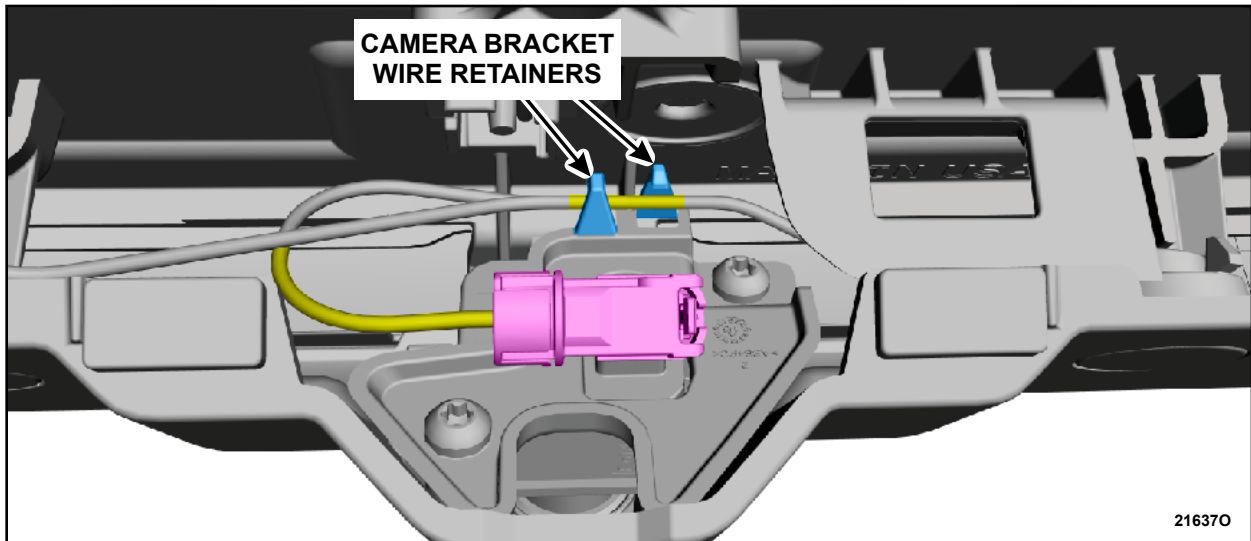

FIGURE 10
4. Disconnect the rear camera electrical connector and position the wire harness out of the camera bracket wire retainers. See Figure 10.